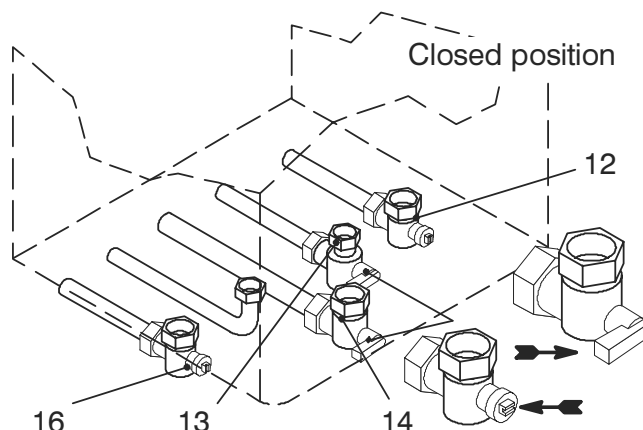

Fig. 8.3
- 1 Turn off the d.c.w. inlet isolating valve (13 in Fig. 8.3) and turn on the hot water taps and any drain cocks.
- 1 Close the c.h. isolating valves (12 and 16 in Fig. 8.3).